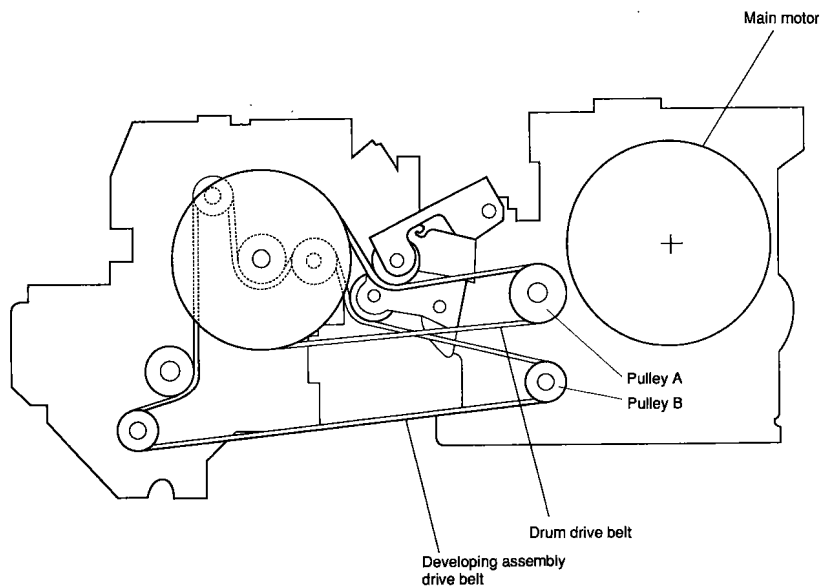

Figure 4-250
- 9) Remove the five screws ⑤, and detach the timing belt from pulley A and pulley B (Figure 4-250); then, detach the main drive assembly ⑥.
Attach the drive belt routing it over the gear and roller as shown in Figure 4-250.